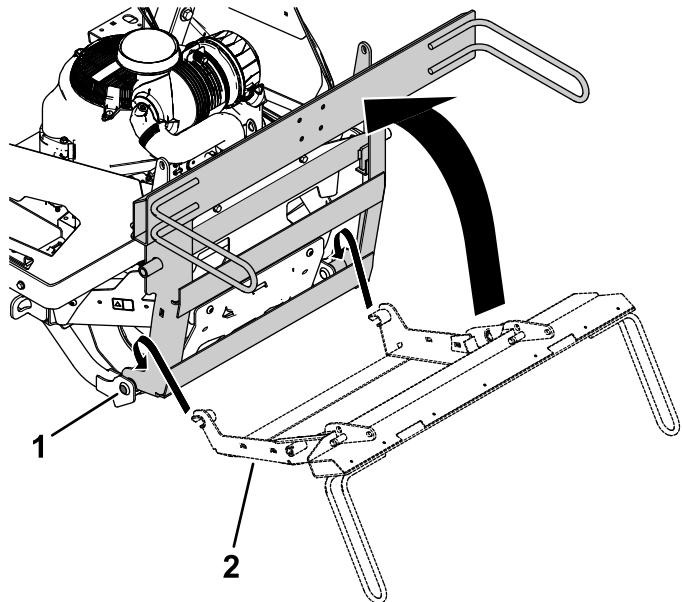

Figure 11
1. Arrange the bagger frame around the pivot pins on the support bracket and rotate it forward (Figure 11).